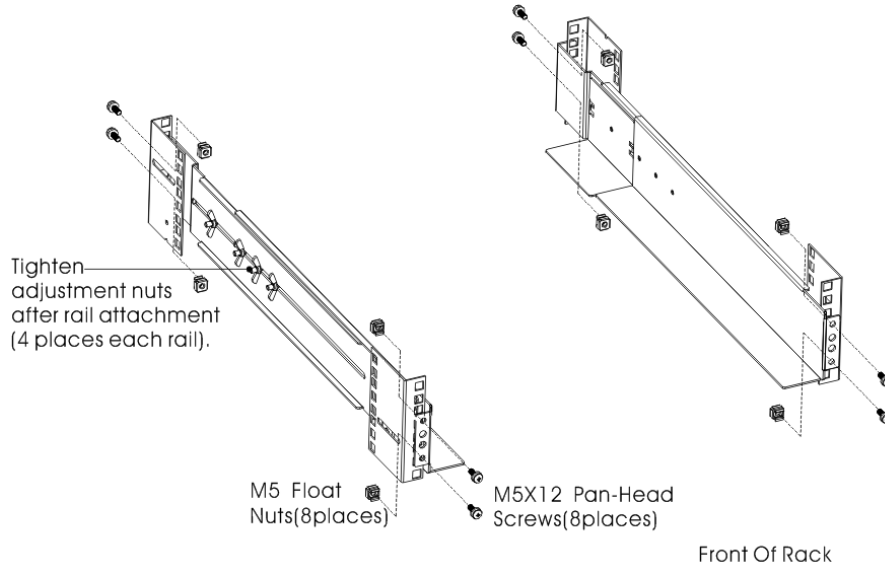

Figure 4 Fixing the Rails
2. Select the proper size in the rack for positioning the UPS (see Figure 4). The rail occupies four positions on the front and rear of the rack.